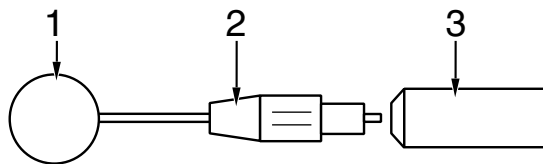

Figure 13-1. Inserting the contact paddle
- * Screw the counter nut (2, Figure 13-1) onto the electrode as far as it will go.
- * Screw the contact paddle (1) into the handle as far as it will go, then bring it into the appropriate position.
- * Now fix the contact paddle by screwing the counter nut (2) tight against the handle (3).